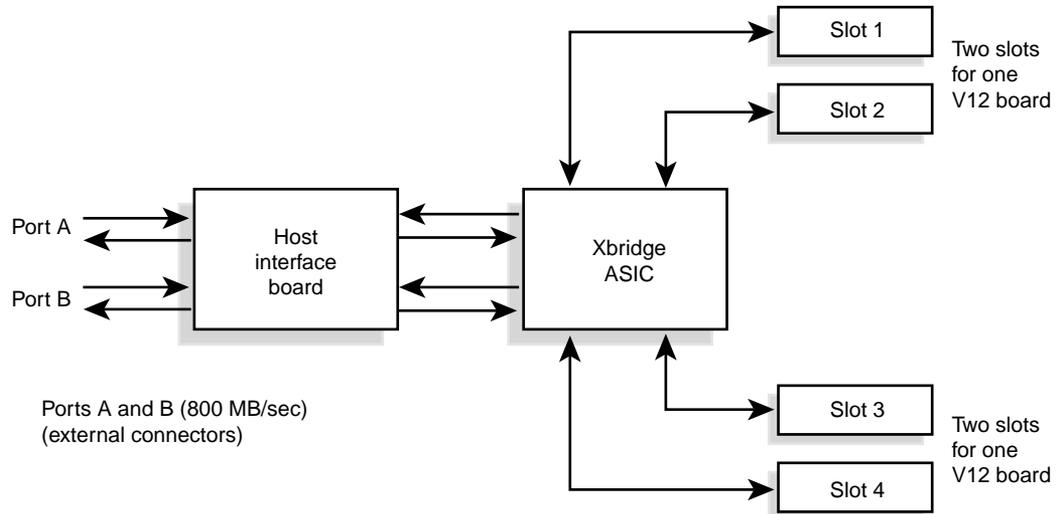

Figure 2-14 V-brick Block Diagram
- **Midplane PCA.** The V-brick midplane contains an Xbridge ASIC that is the interface between the V-brick's two ports and the V12 boards (see Figure 2-14). The midplane also has receptacles for the compression connectors of the V12 boards.
The V-brick midplane contains an Xbridge ASIC that is the interface between the V-brick's two ports and the V12 boards in the board slots, as shown in Figure 2-14, a block diagram of the V-brick. The midplane also has receptacles for the compression connectors of the V12 boards.